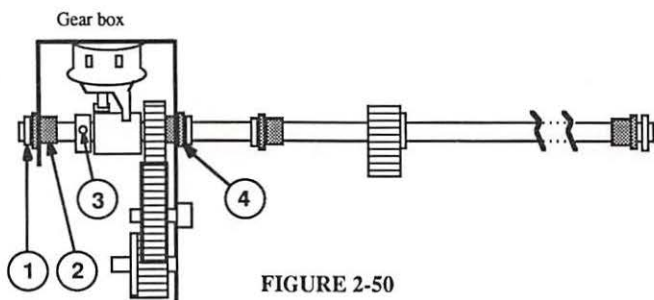

FIGURE 2-50
2. Remove the E-ring and black bushing from the end of the clutch assembly (Figure 2-50, #1 and 2); then remove the 2 mm setscrew (Figure 2-50, #3) and pull the roller shaft out to free the clutch. **NOTE:** Make sure to capture the thin brass washer next to the pickup roller gear.
1. Start the roller shaft through the hole in the large side of the gear box. Install the thin brass washer, then the clutch assembly, facing as in Figure 2-50.
2. Make sure the black bushing (Figure 2-50, #4) is fully seated in its slot in the gear casing (note the tooth on the bushing). Then install the other bushing (Figure 2-50, #2) and its E-ring.